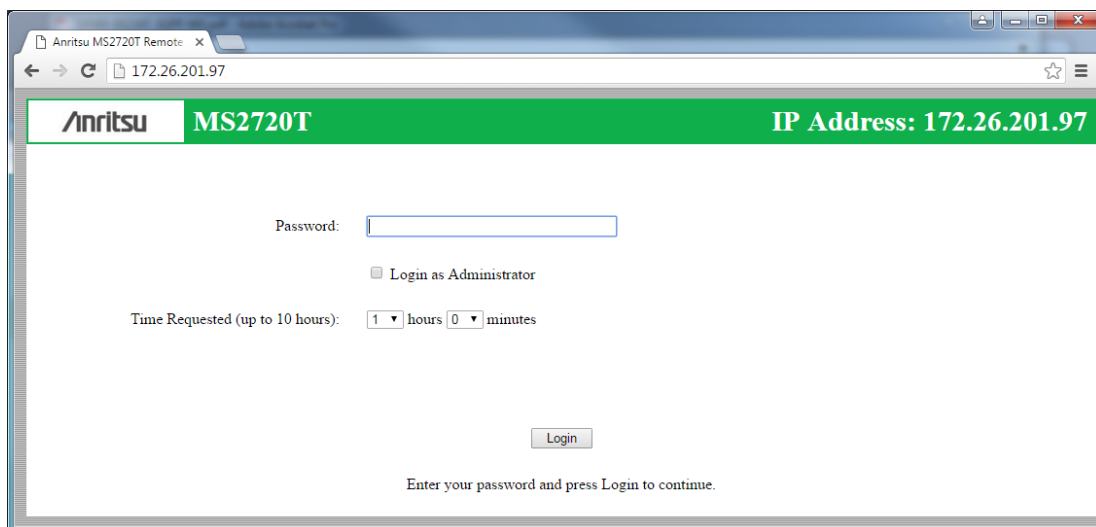

Figure 8-1. Login Page
Enter the instrument IP address in the browser address bar to open the Web Remote Control Login page illustrated in Figure 8-1 on page 8-3.
9. Enter the instrument IP address in the browser address bar to open the Web Remote Control Login page illustrated in Figure 8-1 on page 8-3.
The Web Remote Control Login page opens following browser connection to the instrument. See Figure 8-1. The page may show or hide certain elements depending on device management options set by the Administrator, as described in “Device Options” on page 8-11.